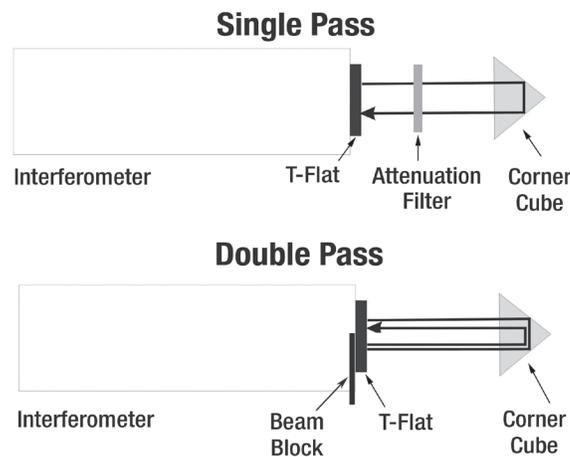

Figure 1. Single and double pass measurements of a corner cube.
The AccuFiz laser interferometer with 4Sight software makes it simple to characterize the errors in corner cubes. Corner cubes can be measured in either single or double pass configurations (Figure 1). In single pass, six interferograms are obtained. The tilt difference between any two interferograms gives the angle error in the corner cube. For double pass, half of the aperture is blocked, as in Figure 1. Three interferograms are obtained with one fringe covering the entire interferogram. The tilt of each interferogram gives one angle error in the corner cube.
- b. For Single Pass mode place an attenuating filter (pellicle) between the transmission flat and the corner cube, as in Figure 1.
- h. For Double Pass mode, block half of the aperture by placing a piece of paper or card between the Transmission Flat and the AccuFiz, as in Figure 1.